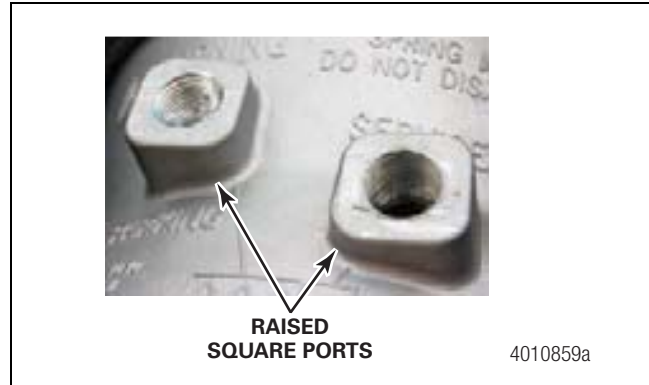

Figure 6.6
- Raised square port on the spring brake chamber (Note: used on Type 24 and Type 30L chambers ONLY), or raised square embossment (service brake chamber). Figure 6.6.